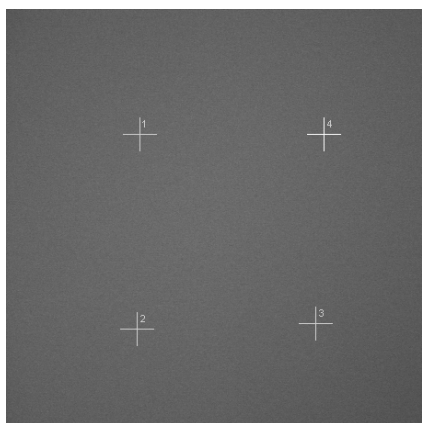

Fig. 136 Image of dye layer with selected positions
- In the ConfoCor **Measure** tool select **LSM Image** from the **Positions** panel. Mark the points in the LSM image that you want to bleach (Fig. 136).